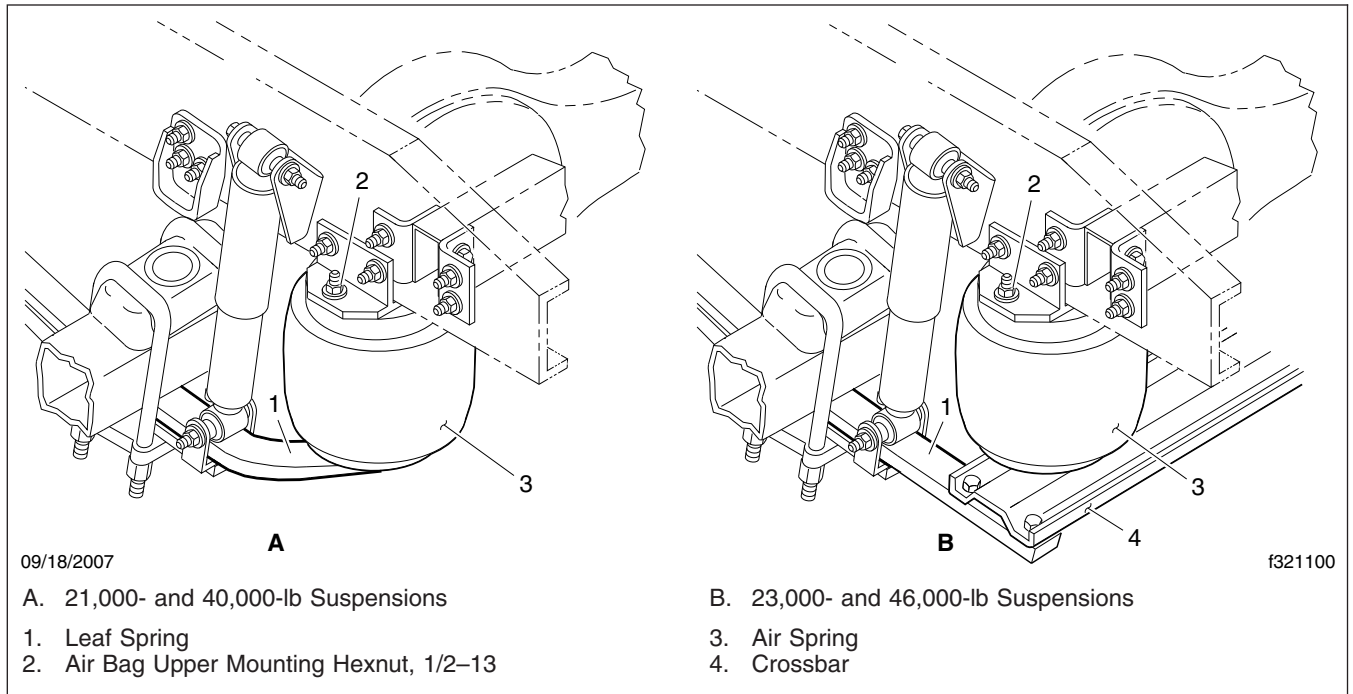

Fig. 2, AirLiner Rear Suspension
4. Remove the locknut and washer that hold the top of the air spring to the mounting bracket on the frame rail; see Fig. 2.